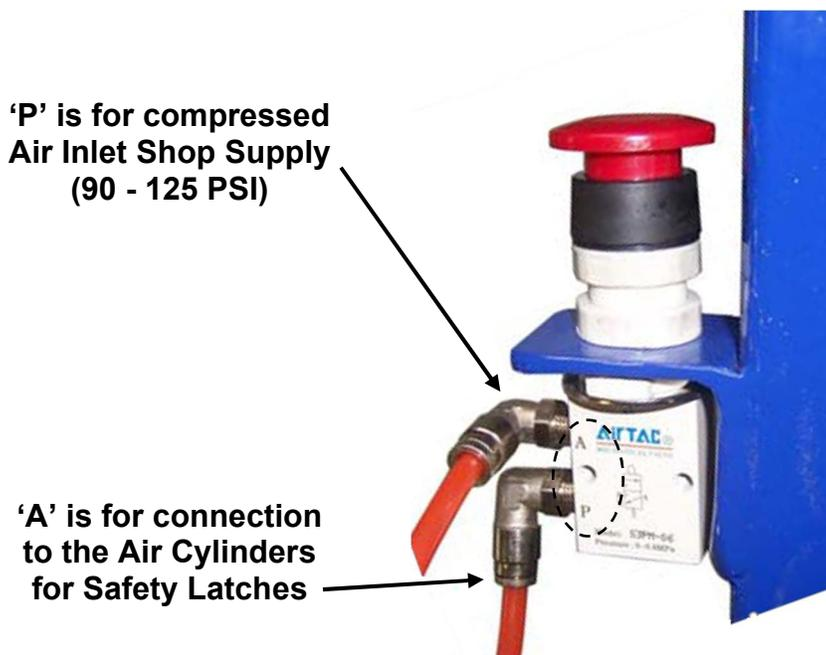

Fig. 7
- A. Connect the Air Tube (6mm) to the Air Valve Switch located on side of Dolly Stand. (Fig. 7)